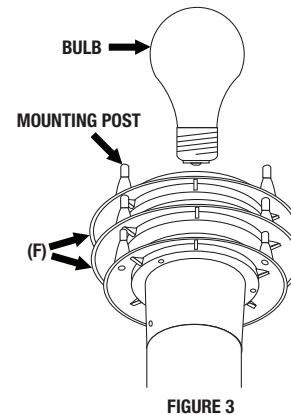
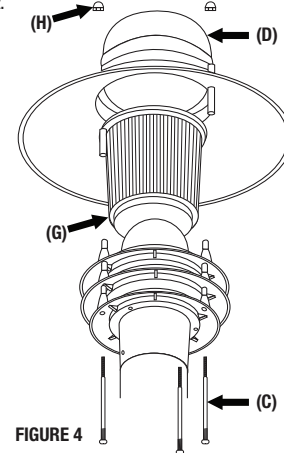

FIGURE 3
FIGURE 4
- Position Louvers (F) onto Post Collar (A) by inserting mounting posts on Post Collar and Louvers (F) into holes as provided - Figure 3.
- Insert Diffuser (G) by placing open end into Post Collar (A) base.
- Place Fixture Lid (D) on top of Diffuser (G) and secure using 4-1/4" Mounting Screws (C) and Nut Caps (H). See Figure 4.